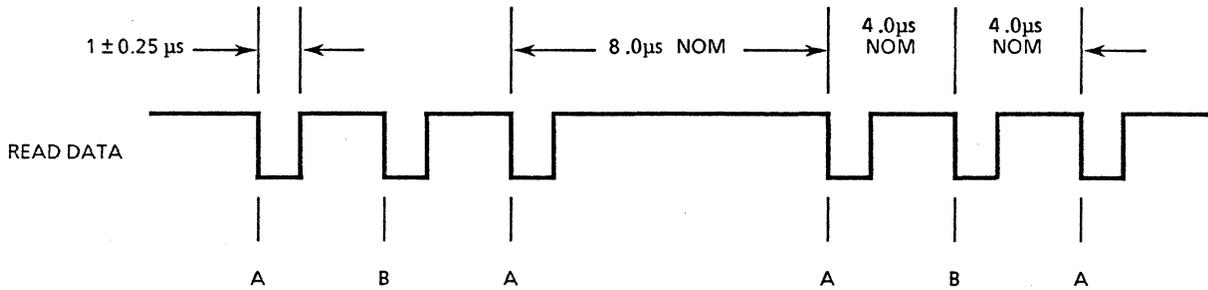
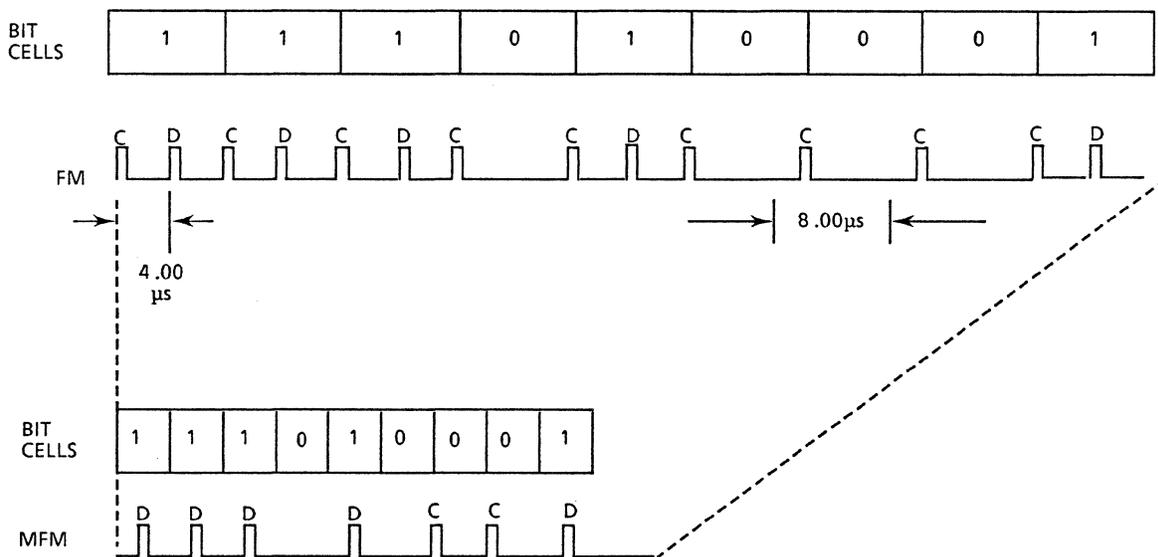

FIGURE 1-6 READ DATA TIMING (FM)
FIGURE 1-7 FM AND MFM CODE COMPARISONS
The timing of read data (FM) is shown in figure 1-6.
The encoding scheme of the recorded data can be either FM or MFM. FM encoding rules specify a clock bit at the start of every bit cell (see figure 1-6). MFM encoding rules allow clock bits to be omitted from some bit cells if the preceding bit cell or the current bit cell contains a data or clock bit. See figure 1-7.